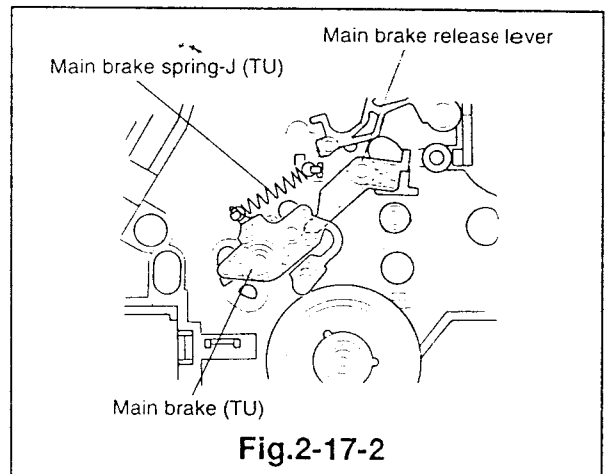

Fig.2-17-2
- ① Install the main brake(TU) on the main plate assembly so that the coupling portion with the main brake release lever is as shown in Fig. 2-17-2.
- ② Install the main brake spring J(TU).
- ③ Install the sub brake(TU), the sub off lever, and the sub spring(TU). (Refer to Para. 2-16 for the installation method.)
- ④ Install the sub brake(SP) and the sub spring(SP). (Refer to Para. 2-14 for the installation method.)
- ⑤ Install the cassette housing. (Refer to Para. 2-1 for the installation method.)